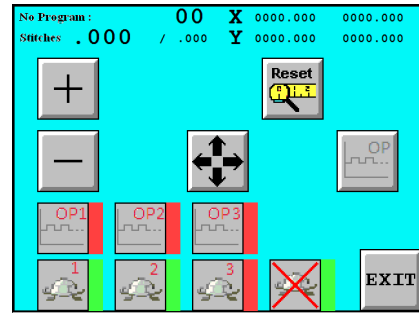

Fig.17
<p>18.1.4 Press the button , the sewing clamps move to the first stitch of the sewing program and the screen as fig. 17 will appear.</p>	 <p style="text-align: center;">Fig.17</p>
18.2.7 Press the button “SAVE”  to get back to the screen as fig. 17.
18.3.1 Press the button  on the screen as fig. 17 up to the beginning of the segment to be moved.